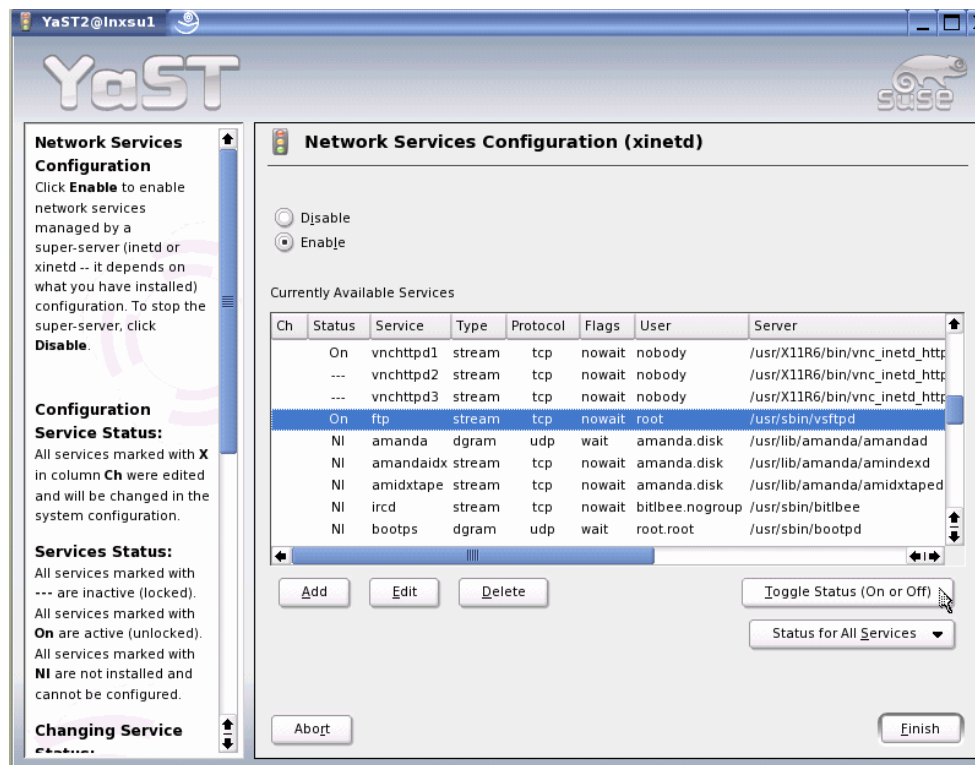

Figure 3-8 YaST panel to start vsftpd daemon
5. We started the vsftpd daemon using YaST. From the main panel we selected **Network Services** → **Network Services (inetd)** → **Toggle Status ON** for vsftpd, as shown in Figure 3-8.